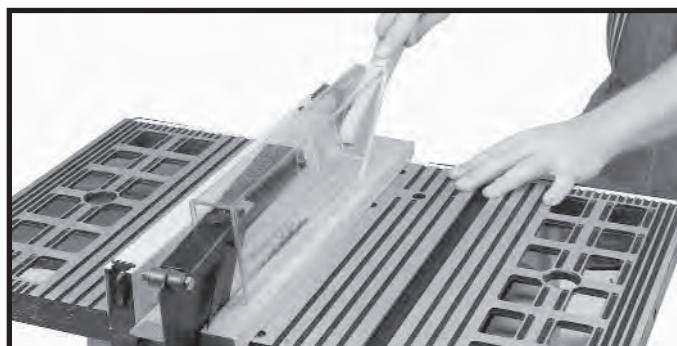

Fig. 41
- If the ripped work is less than 4 inches wide, a push stick should always be used to complete the feed, as shown in Fig. 41. The push stick can easily be made from scrap material as explained in the section "**CONSTRUCTING A PUSH STICK.**"